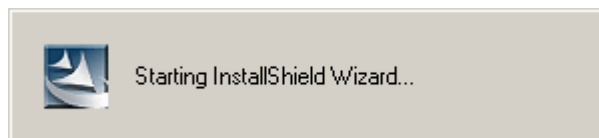

Figure 6-19: The InstallShield Wizard Starts
Step 4: The **InstallShield Wizard** starts (**Figure 6-19**).